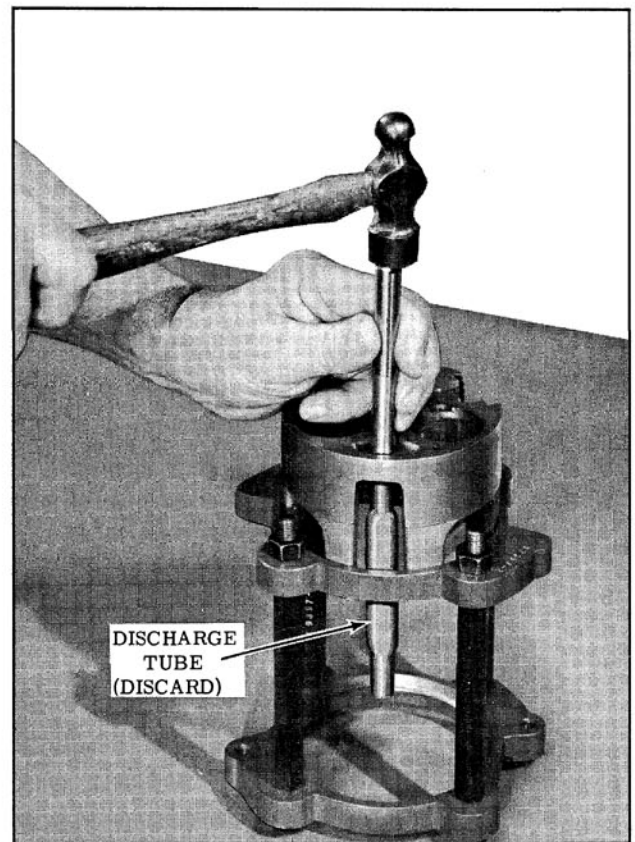

Fig. 14-114 Removing Discharge Tube
4. Remove and discard the discharge tube. (Fig. 14-114)